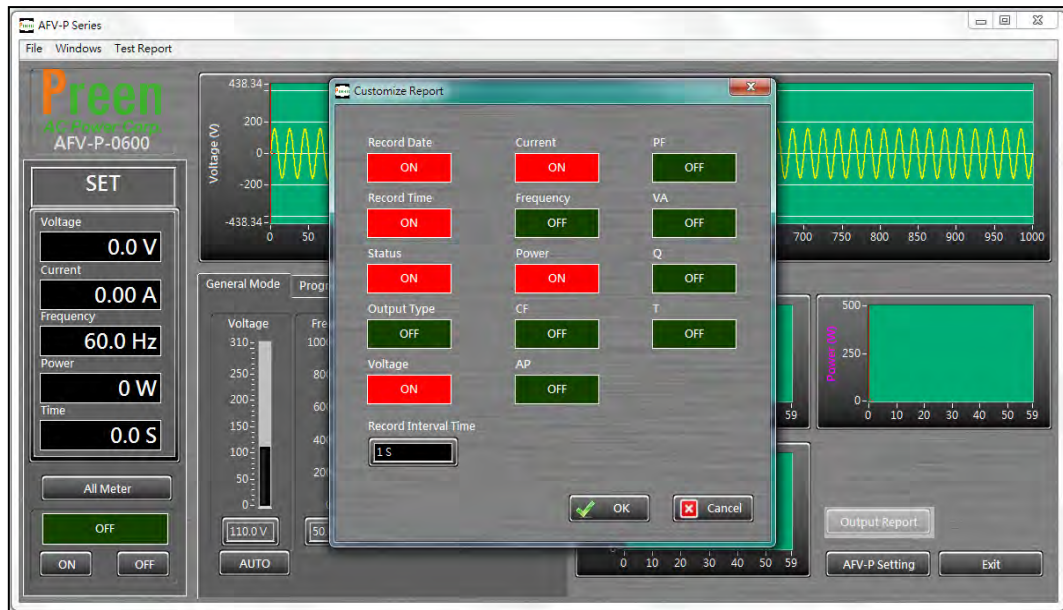

Figure 7.14 Select the desired items to show on the product output report
- 2 Select the desired items to show on the product output report (see Figure 7.14).